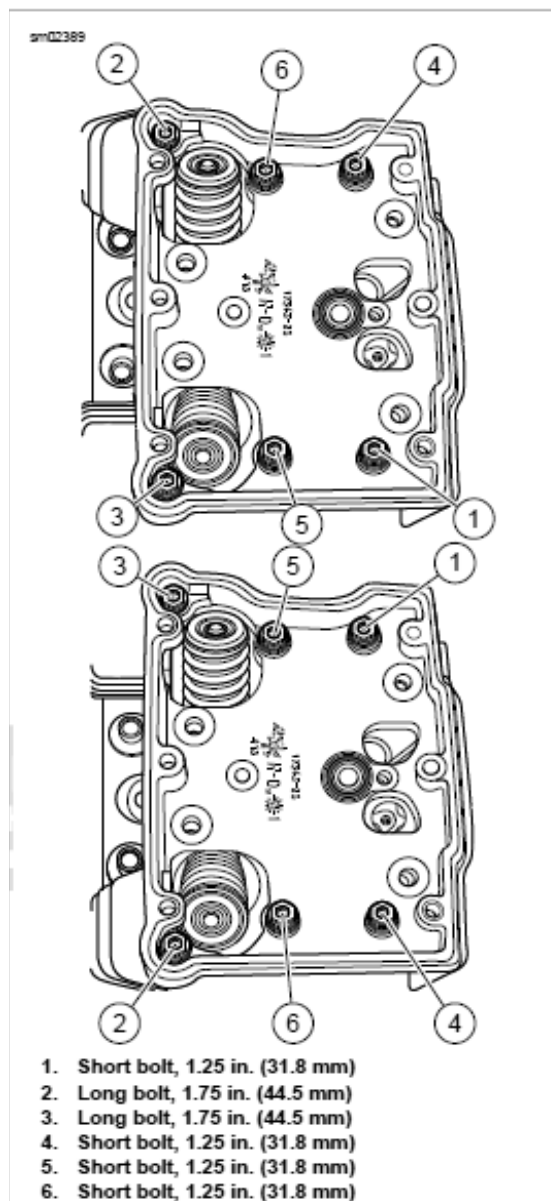

Figure 3-81. Rocker Housing Torque Sequence and Bolt Size
11. See Figure 3-81. Loosely install the rocker housing bolts. Place two long bolts on the left side. Tighten the bolts in the sequence shown to 90 in-lbs.